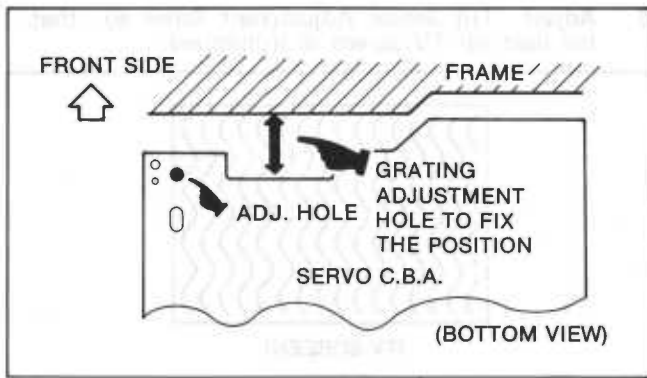

Fig. E13
- Play back the CD Test Disc. At this time, Grating Hole can be seen through space which is between Servo C.B.A. and Frame as shown in Fig E13.